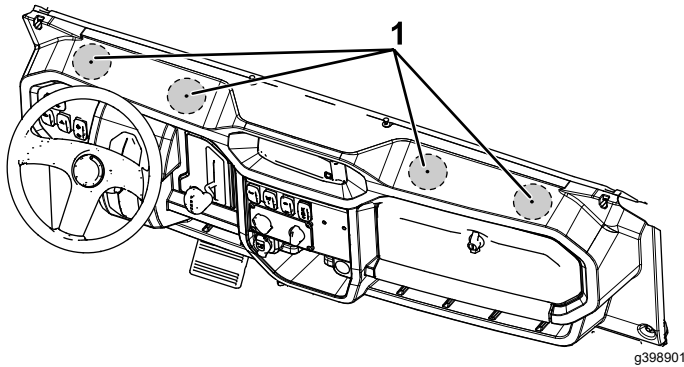

Figure 11
1. Locate the 4 drill pilot dimples on the top of the dashboard (Figure 11) and drill 4 holes (76 mm or 3 inches) directly over the pilot dimples.